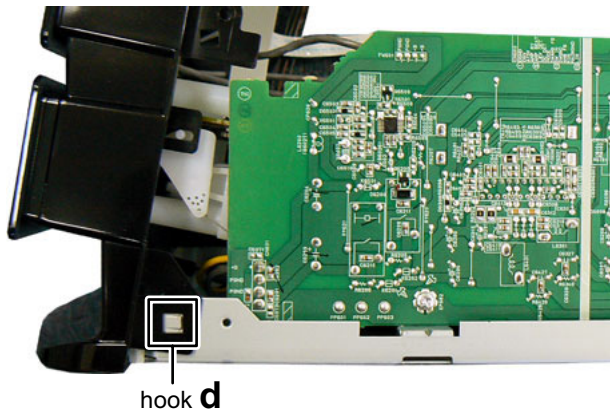

Fig.10
- (3) Disengage two hooks **d** engaged both side of the Front panel. (See Fig.10)
3.2.3 Removing the feed motor assembly (See Fig.10)